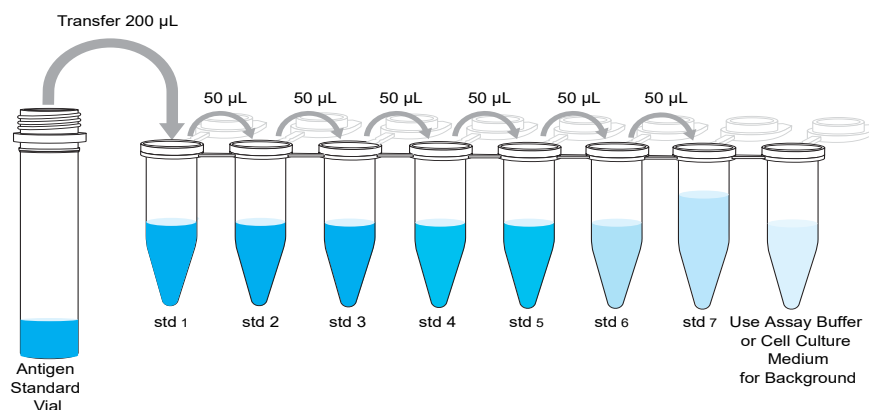

Figure 1 4-fold serial dilution
8. Repeat steps 4–7 for tubes Std4–Std7, changing pipette tips between dilution steps, see Figure 1.